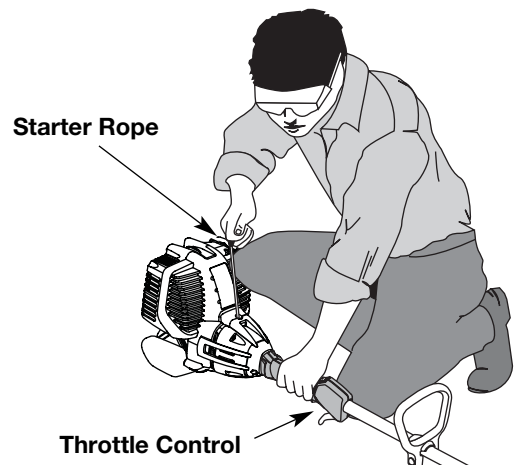

Fig. 11
WARNING: Avoid accidental starting. Make sure you are in the starting position when pulling the starter rope (Fig. 11). To avoid serious injury, the operator and unit must be in a stable position while starting.
4. With the unit in the starting position, **do not squeeze the throttle control** (Fig. 11). Pull the starter rope out a short distance, until you feel some resistance. This is usually around 2-4 inches. Then pull the starter rope out with a **controlled and steady motion** 5 times. The engine should start.